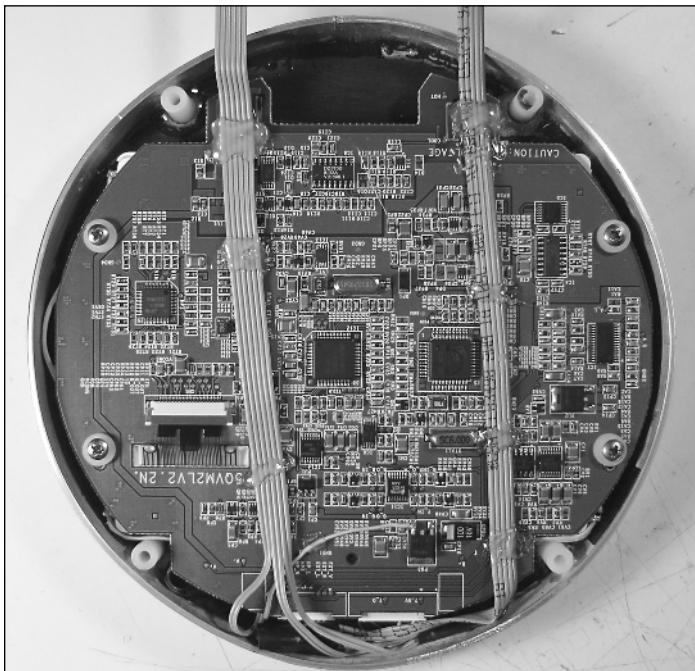

FIGURE 13-8: The PSOne screen and assembly thus far.
2. Use your cutters to remove the thin top piece of circuit board from the PSOne above where the transformer used to be. (You’ll see it removed in Figure 13-8.)
The PSOne screen and assembly should now appear as seen in Figure 13-8.